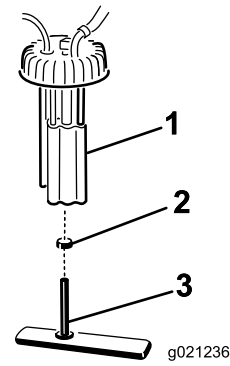

Figure 52
2. Unplug the wire harness connectors from the fuel pump (Figure 52).
3. Loosen the hose clamp and disconnect the fuel line from the fuel pump cap (Figure 52).
4. Remove the fuel pump cap from the top of the fuel tank (Figure 52).
5. Remove the fuel pump assembly and fuel filter from the tank (Figure 52).
6. Remove the clamp securing the fuel filter hose to the fuel pump fitting. Remove the hose from the fitting (Figure 52).